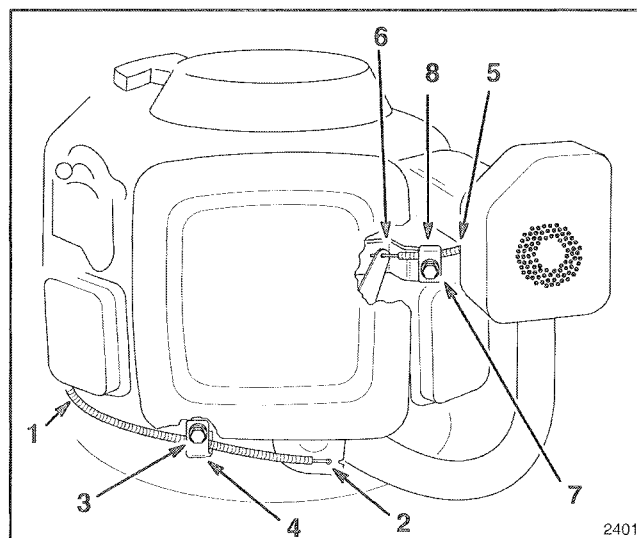

Figure 4
1. Route throttle cable around right side of engine (Fig. 4).
3. Hook Z-bend at end of throttle wire into throttle arm (Fig. 4).
4. Loosen cable clamp screw and insert throttle cable behind the cable clamp (Fig. 4).
5. Pull slightly on the throttle cable to remove any slack and tighten the clamp (Fig. 4).
1. Route choke cable around left side of engine (Fig. 4).
3. Hook Z-bend at end of choke wire into choke arm (Fig. 4).
4. Loosen cable clamp screw and insert choke cable behind the cable clamp (Fig. 4).
5. Pull slightly on the choke cable to remove any slack and tighten the clamp screw (Fig. 4).